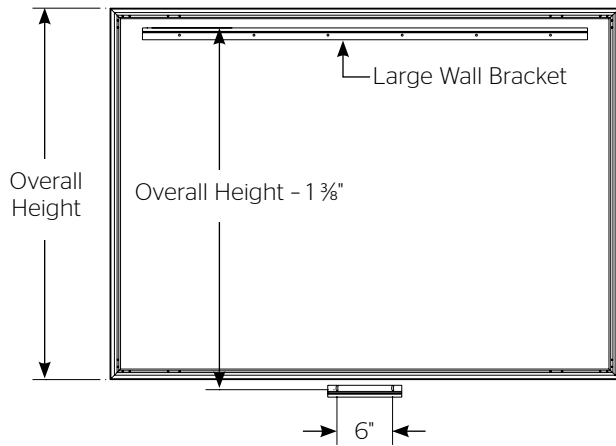

Figure 3
2. To install the small wall bracket, you must measure the overall height of the screen frame and subtract 1-3/8". Using that dimension, measure down from the top edge of the wall bracket and mark the wall for two screw holes. The holes should be centered within the frame and 6" apart. Refer to Figure 3.